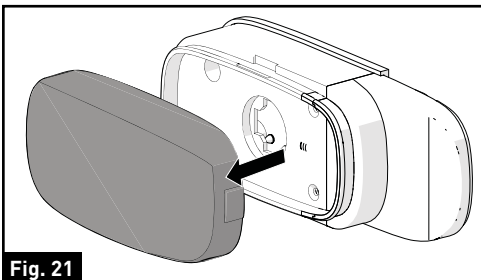

Fig. 21
2. Remove the lens cover by scratching the slot on the side of the traffic light. (Fig. 21)